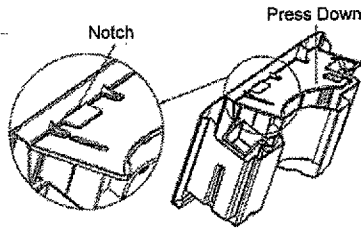

Fig. 5
2. Open the drain connector door (Fig. 5)
3. Thread a garden hose (sold separately) onto the DRAIN CONNECTOR NOZZLE located inside the drain connector door. (Fig. 5)